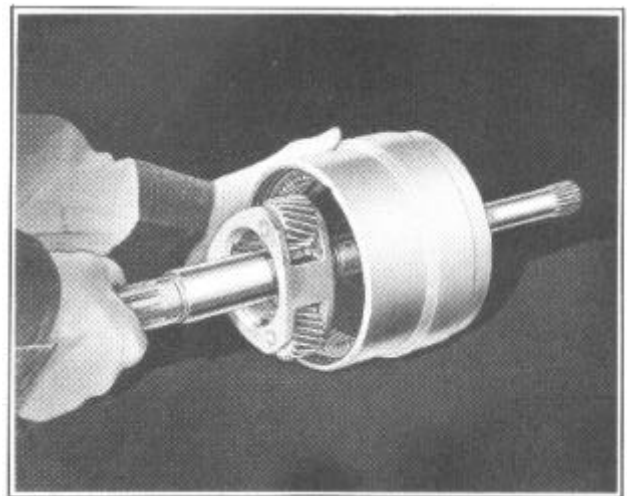

FIGURE 107
18. Slide the rear sun gear (2) out of the reverse free wheel unit and remove the free wheel unit.
19. Pull the mainshaft rearward and remove the mainshaft and rear planetary carrier assembly from the low brake drum assembly, Figure 107.